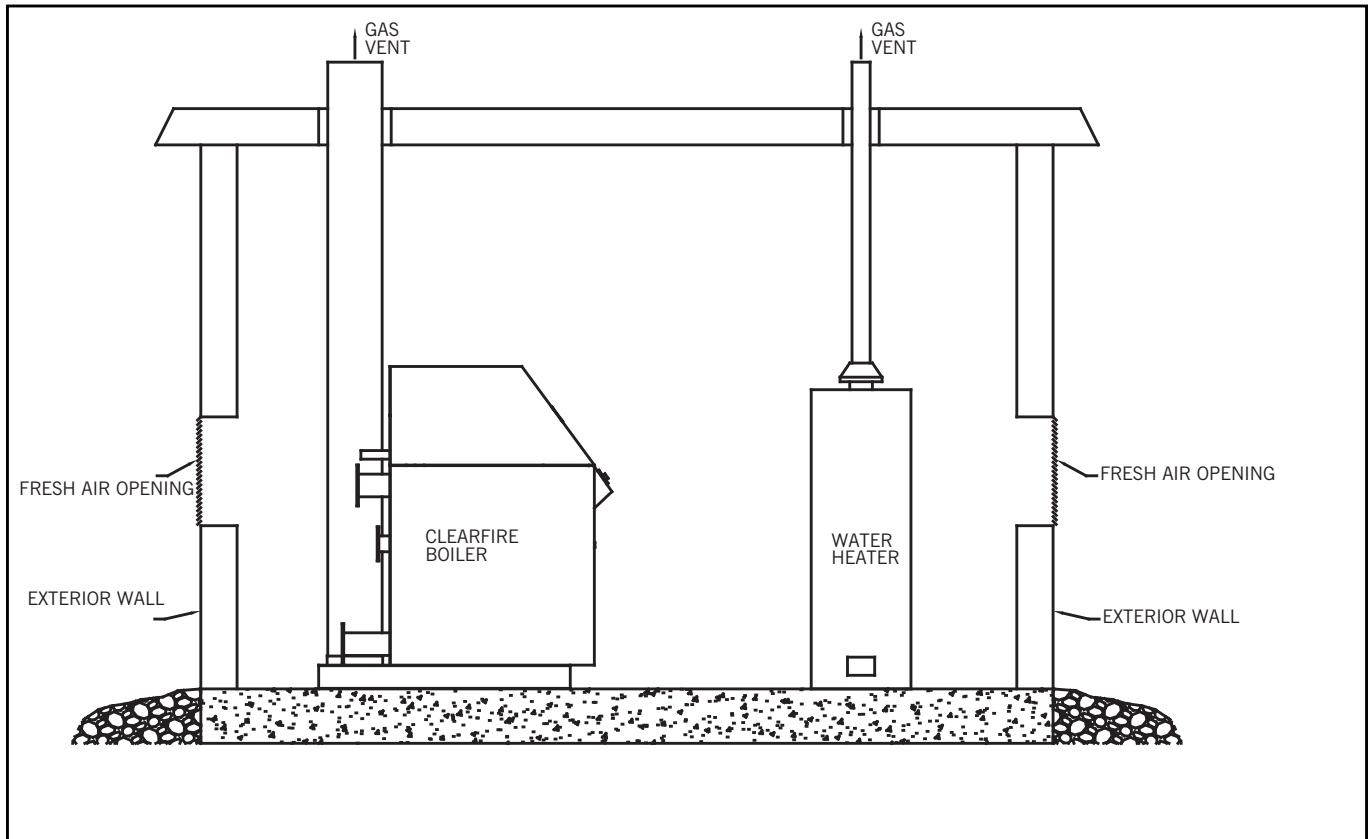

Figure B5-48. Two Opening Engineered Method
- A. Two permanent air supply openings in the outer walls of the boiler room are recommended. Locate one at each end of the boiler room, preferably below a height of 7 feet. This allows air to sweep the length of the boiler. See Figure B5-48.